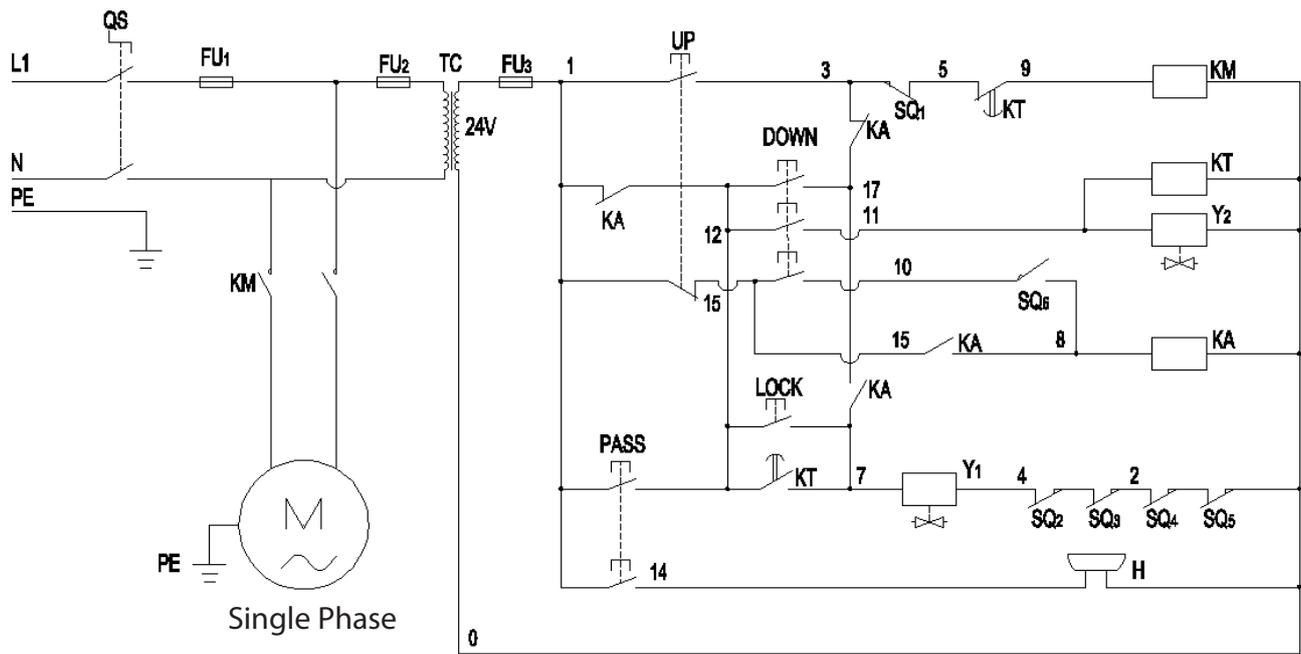

Fig.39
6.3. 220V Wire connection and circuit diagram. (Ver Fig.39)